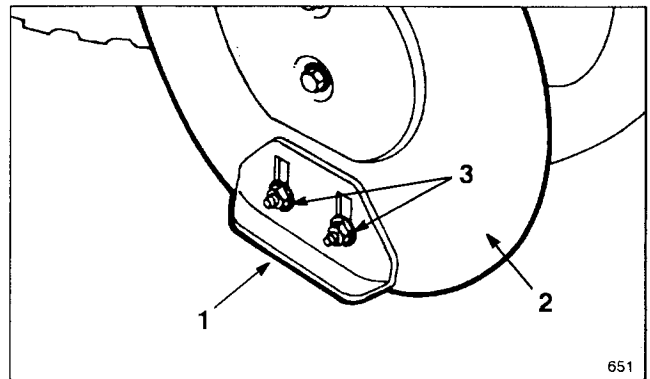

Figure 17
3. Move snowthrower to a level surface. Next, loosen (4) flange nuts securing both skids to the auger side plates (Fig. 17) until the skids can be slid up and down easily.
6. When scraper is adjusted correctly and is supported above level surface, move the skids down to sit flat on the ground and tighten the (4) flange nuts securing both skids to the auger side plates (Fig. 17). Skids will now support the auger blades and scraper above the ground.
2. Loosen the (4) flange nuts securing both skids to auger side plates (Fig. 17). Next, slide skids down as far as possible so auger will be supported as far from the level surface as skid adjustment allows; then tighten flange nuts.